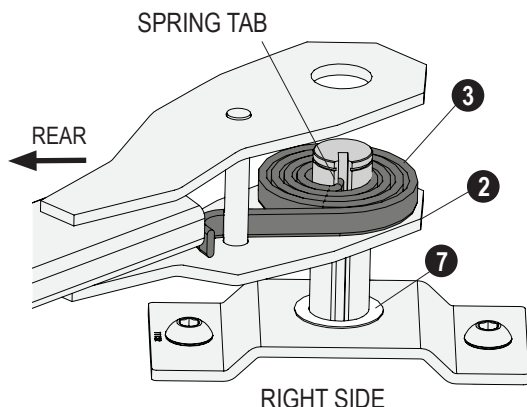
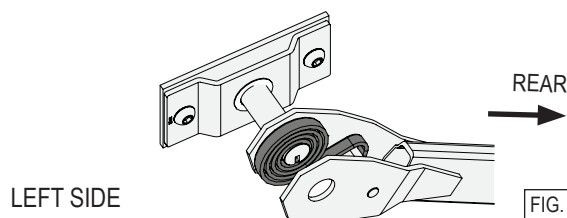

FIG. 101
FIG. 102
- Install a **bushing (7)** onto the pivot pin.
- Slide the first **lower arm plate (2)** onto the pivot pin.
- Install the **springs (3)** one at a time. Ensure each **spring tab** inserts into the pivot pin slot. Align the arm plates and springs as shown for the right side in Figure 101 and the left side in Figure 102.